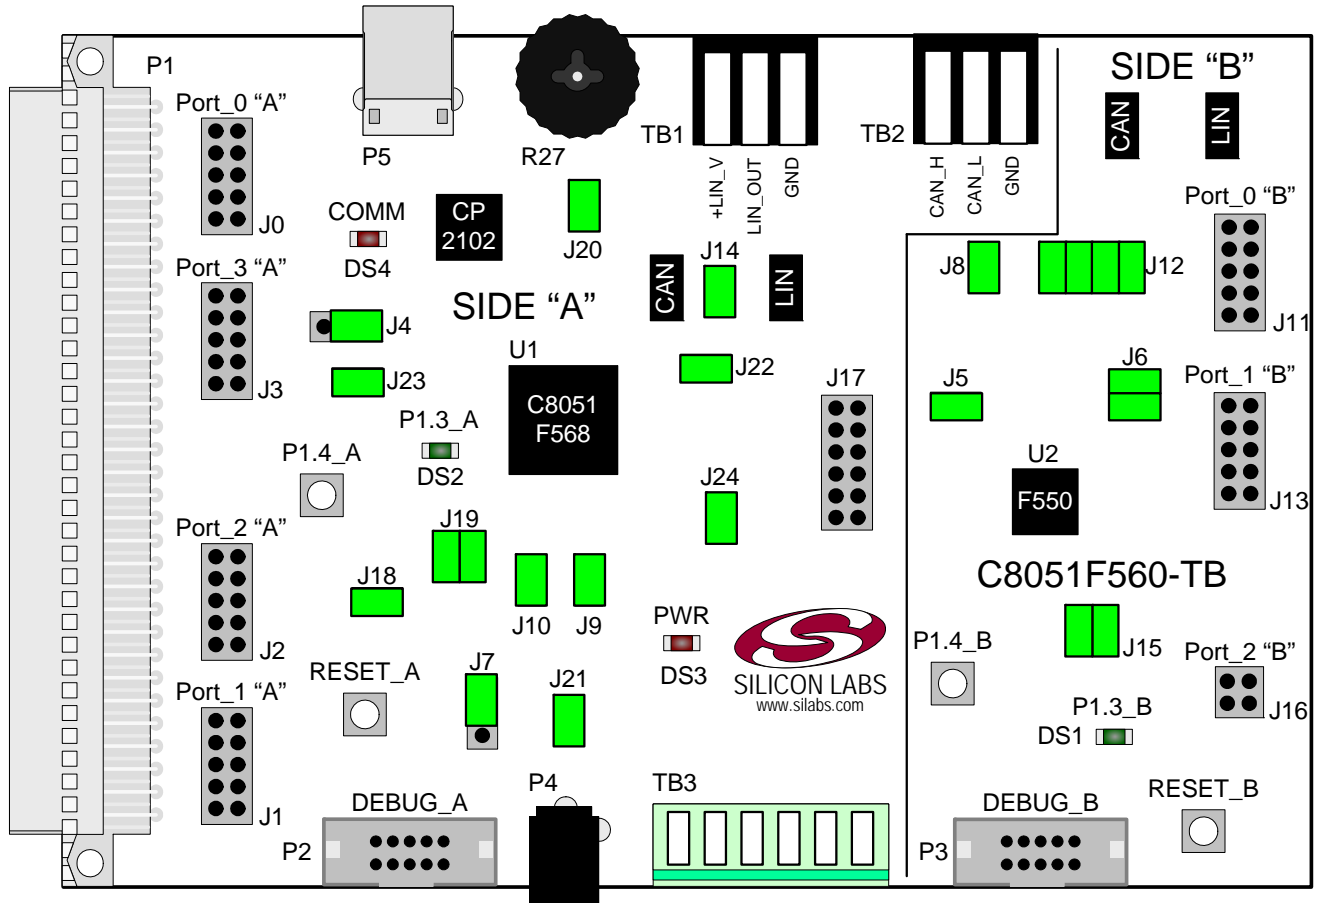

Figure 5. C8051F560 Target Board Shorting Blocks: Factory Defaults
3. Verify that shorting blocks are installed on the target board as shown in Figure 5 on page 7.
The C8051F560 Development Kit includes a target board with a **C8051F568** (Side A) and **C8051F550** (Side B) device pre-installed for evaluation and preliminary software development. Numerous input/output (I/O) connections are provided to facilitate prototyping using the target board. Refer to Figure 4 for the locations of the various I/O connectors. Figure 5 on page 7 shows the factory default shorting block positions. A summary of the signal names and headers is provided in Table 12 on page 15.
The C8051F560 Target Board comes from the factory with pre-installed shorting blocks on many headers. Figure 5 shows the positions of the factory default shorting blocks.